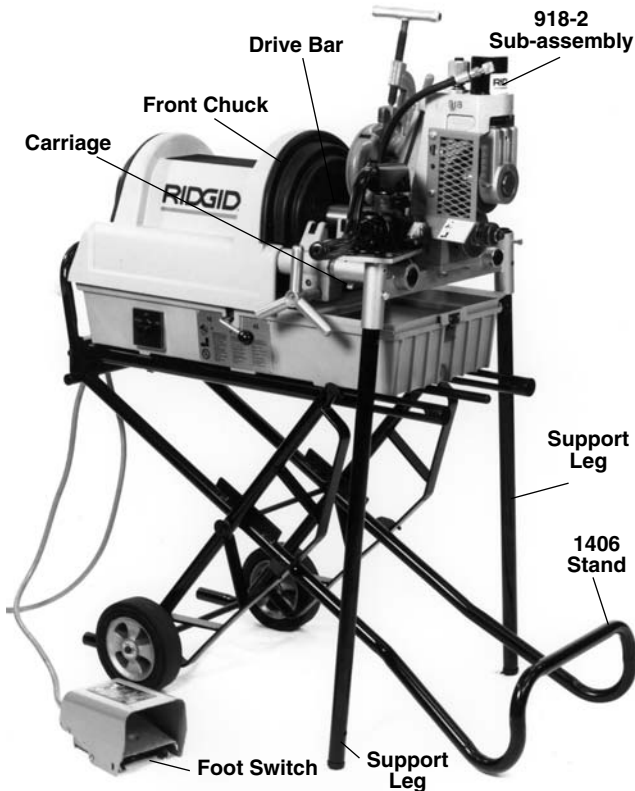

Figure 4 – 918 Roll Groover Mounted on 1822 with 1406 Stand
4. Install support legs into socket holes on the base. (*Figure 4*) and tighten locking bolts.